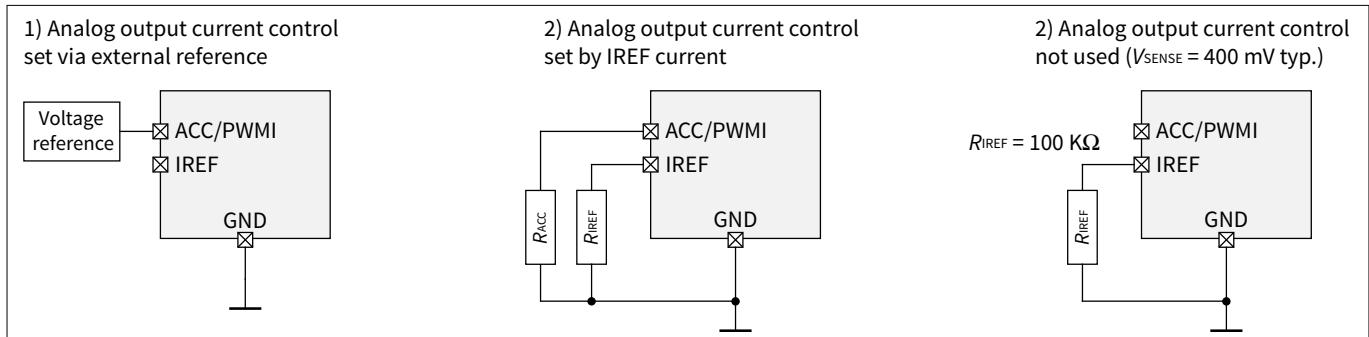

Figure 16 Analog output current control configurations
- If the ACC is connected to a voltage reference with low output impedance, as shown in Figure 16(1), the voltage VACC, is equal to the voltage reference. As it is expected, in this case it is not necessary to connect a resistor to the IREF pin
- If the ACC is connected to digital/analog dimming, as shown in Figure 16(2), the IREF pin provides current to the ACC/PWMI pin set by a resistor. The voltage on the VACC/PWMI on this board is equal to:
- If the analog or digital current control is not needed, the ACC/PWMI pin stays open, as shown in Figure 16\(3\), then connect a high resistance to the IREF pin. In this way, the voltage on the ACC/PWMI pin reaches its maximum possible voltage